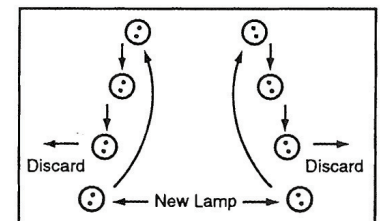

Figure 12 - Rotation/Replacement Sequence
**Rotation System.** Each tester uses eight lamps; four on each side. Irradiance is controlled by replacing the oldest lamp in each bank every 400 hours of lamp operation. At that time the remaining six lamps are rotated as shown in Figure 12. The irradiance is an average of lamps at four different points on the age/output curve. This average remains relatively stable over time, giving these multi-lamp testers a substantial advantage over single lamp testers.